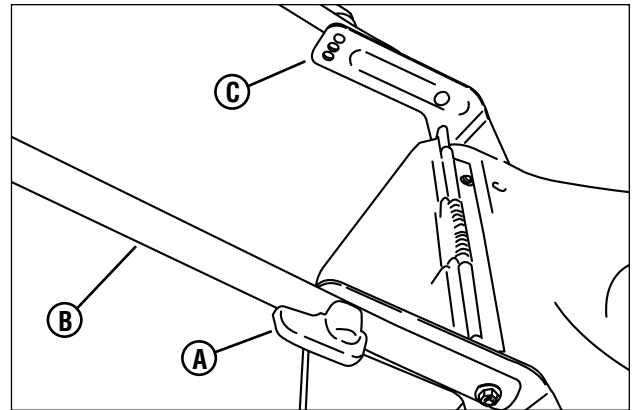

Figure 1: Unfolding the lower handle
3. Turn the knobs **(A, Figure 1)** on either side of the lower handle **(B)** to retract the locking pins. Raise the lower handle, aligning it with one of the three sets of holes in the handle brackets **(C)**. Turn the knobs to release the locking pins and secure the lower handle.